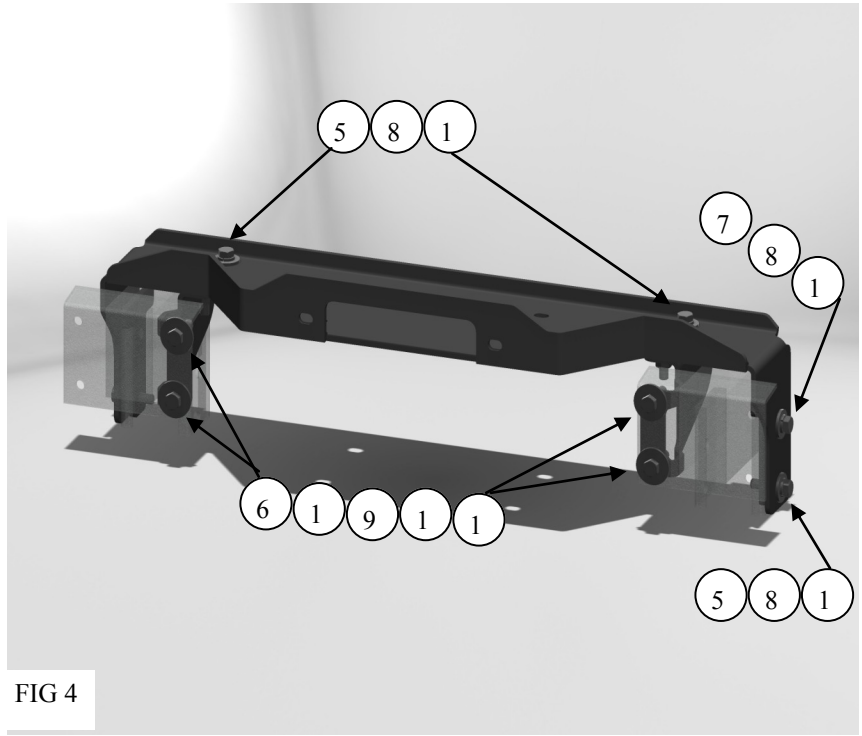

FIG 4
5. Locate the winch tray and place it on top of the frame and align it with all mounting points attach the winch tray to the top hole in the threaded plates using (2) M12 x 30mm hex head bolts, (2) M12 x 37mm flat washers, and (2) M12 lock washers. Do not fully tighten at this time. FIG 4
6. Attach winch tray to all other mounting points using, (6) M12 x 45mm hex head bolts, (6) M12 x 37mm hex head bolts, and (6) M12 lock washers. Do not fully tighten at this time. FIG 4